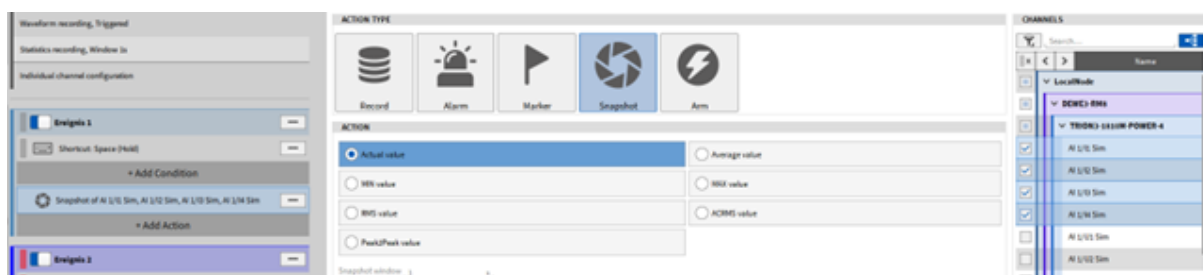

Fig. 9.22: Selecting several channels in the Snapshot Action menu
**Note:** The same snapshot action can be applied to several channels by selecting them in the Channel list on the right-hand side (see Fig. 9.22). An own snapshot channel for each selected channel is created in the Channel List (see Fig. 9.23). Selecting several channels in the Snapshot Action menu will result in an own snapshot channel in the Channel List for each selected channel